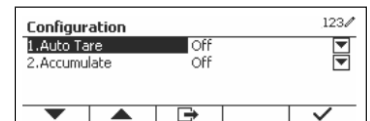

Figure 27
1. Press the button corresponding to the icon to enter Configuration. The Configuration screen is now displayed. (See Figure 27)